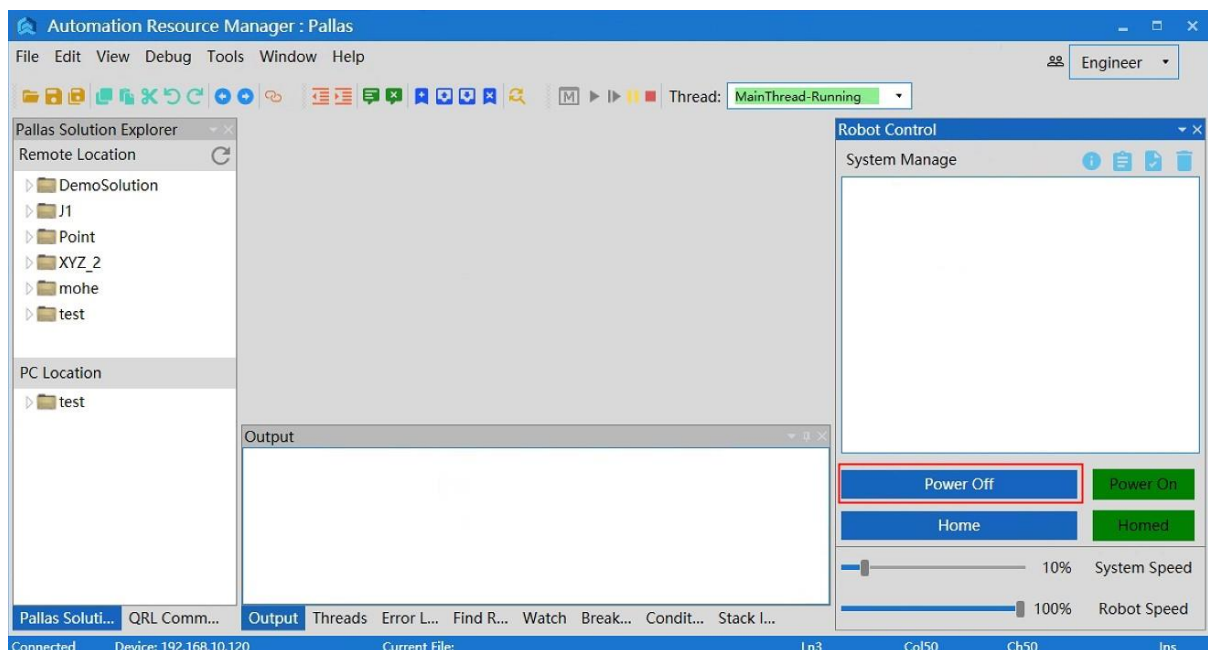

Figure 6-51 Interface of teaching in powered-on state
**Step 2** Click the <Power Off> at the bottom right of the ARM debugging interface, as shown in Figure 6-51.